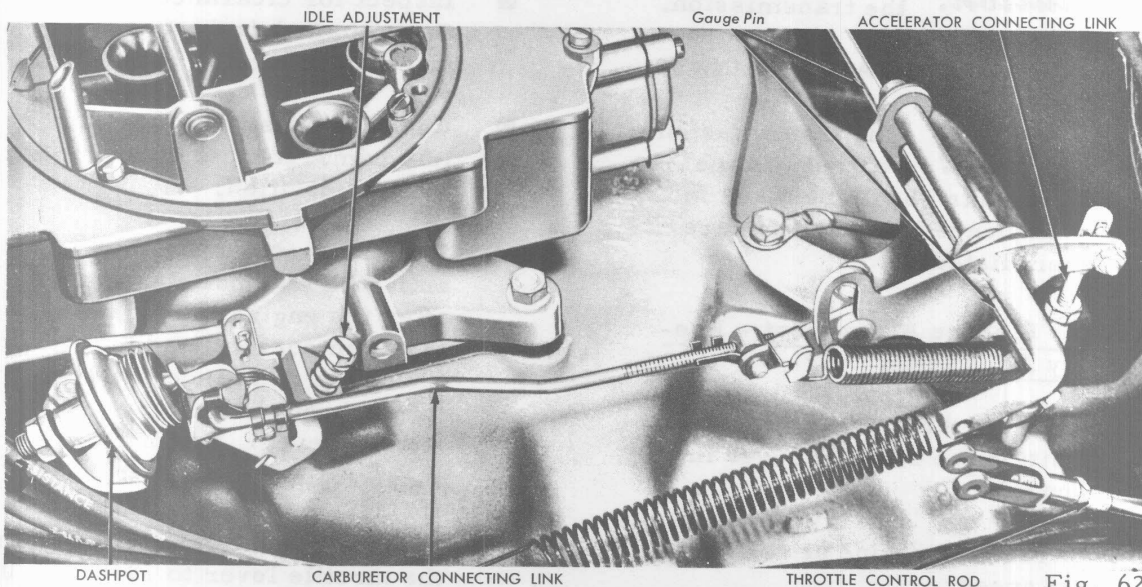

Fig. 62
**Note:** The carburetor throttle lever must be against the idle adjusting screw at 450 to 475 rpm in Drive 1 or Drive 2 (Fig: 62).
- ⊗ Insert a gauge pin ( $1/4$ " drill rod) through the gauging holes (Fig. 62).